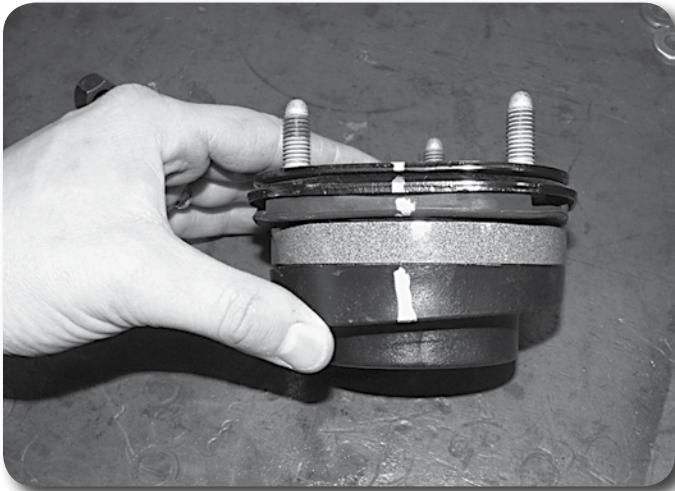

Figure 20
47. Place the provided preload spacer (01278) between the plastic coil seat and the rubber isolator **Figure 20**.